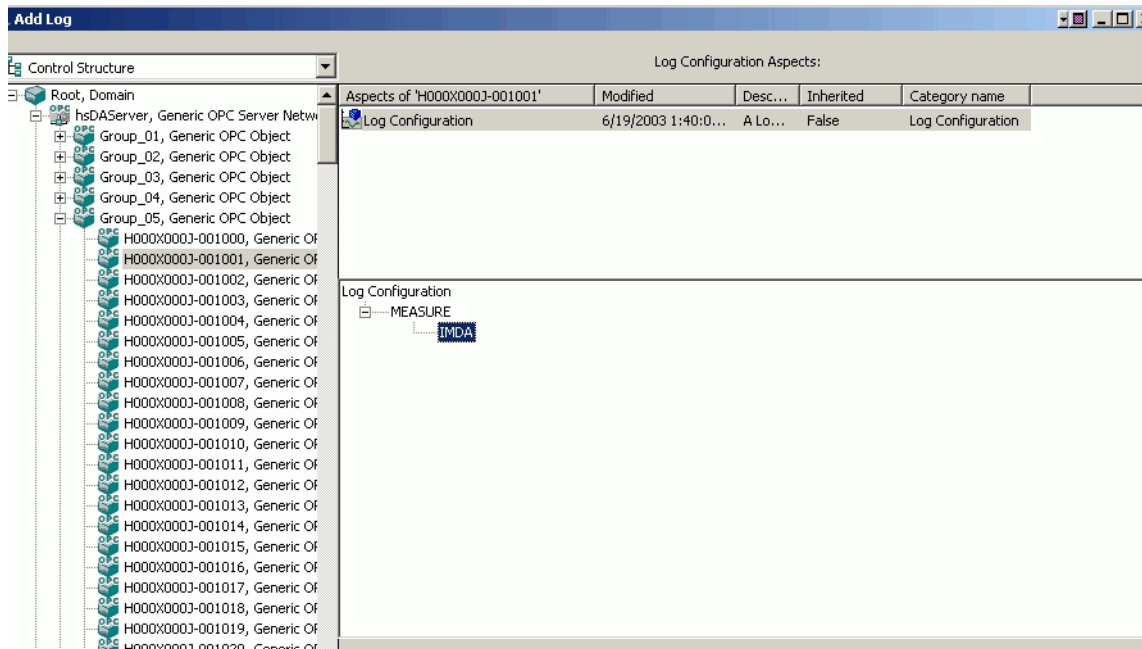

Figure 140. Adding Property Logs to the Log List
- a. Click the **Add Logs** button. This displays a browser dialog similar to the Plant Explorer. Use this browser to find and select the logs in the Plant Explorer structures, Figure 140.